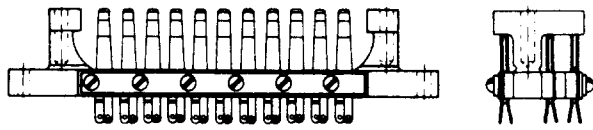

Fig. 8—315 Jack
2.08 **315:** (A & M only.) This apparatus should be ordered only for additions or maintenance of existing equipment arranged for this type of apparatus. This multicontact jack (Fig. 8) is used with the 233 plug. This jack is designed for switching in emergency switching and patching plug and jack equipment in dial offices. The contacts are insulated from each other and are arranged in pairs. The 315 jack is provided with guide holes arranged to engage with guide posts of associated plugs for centering contacts of plugs and jacks. This jack has 33 pairs of contact springs.